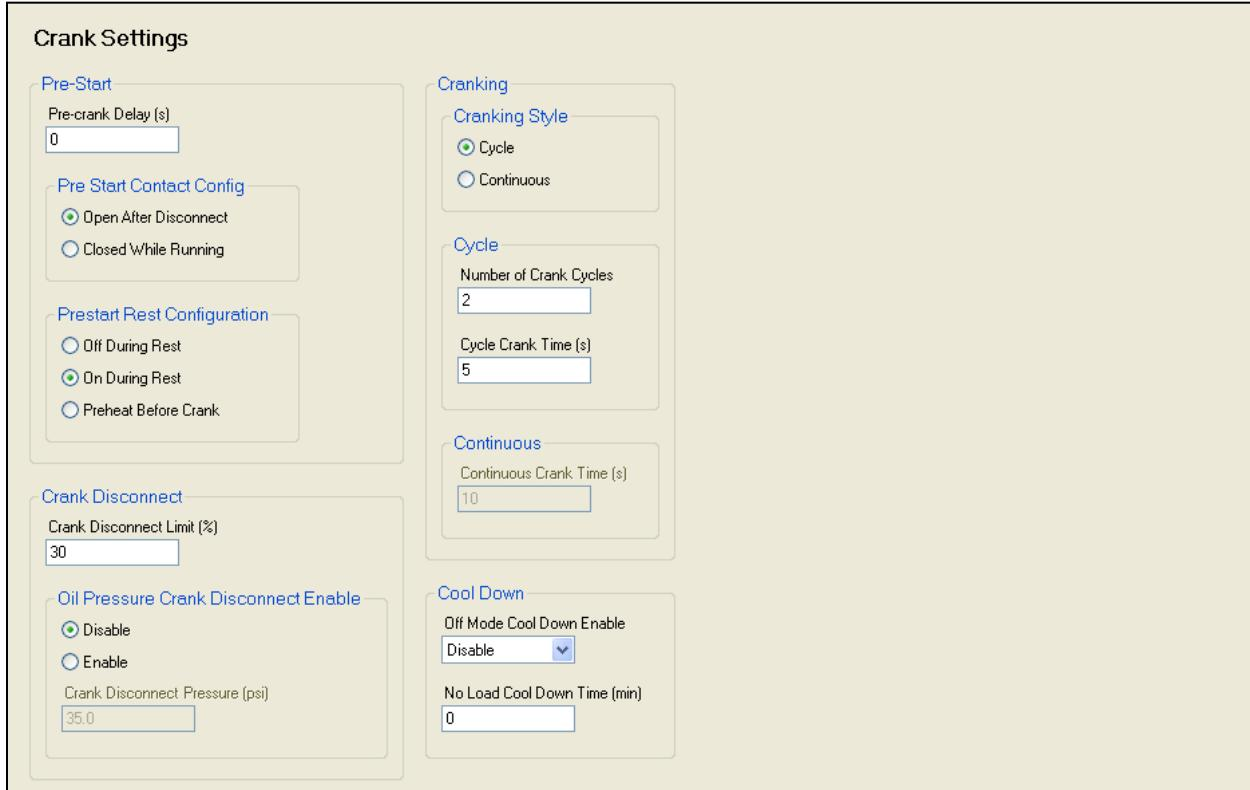

Figure 6-25. Settings Explorer, System Parameters, Crank Settings Screen
d. Crank Settings (Figure 6-25)